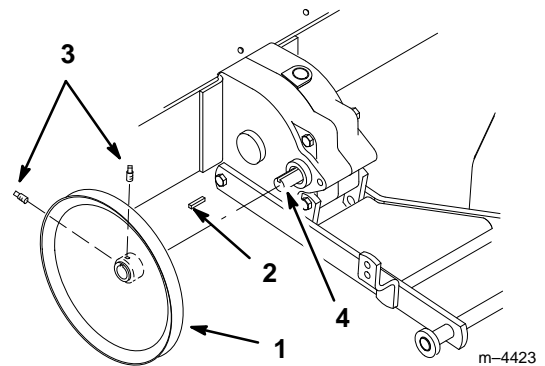

Figure 3
4. Install the pulley by inserting the square key into the input shaft groove. Slip the pulley onto the shaft (hub toward the gear case) and align it with the flat idler pulley. Secure it with two square-head set screws (Fig. 3).